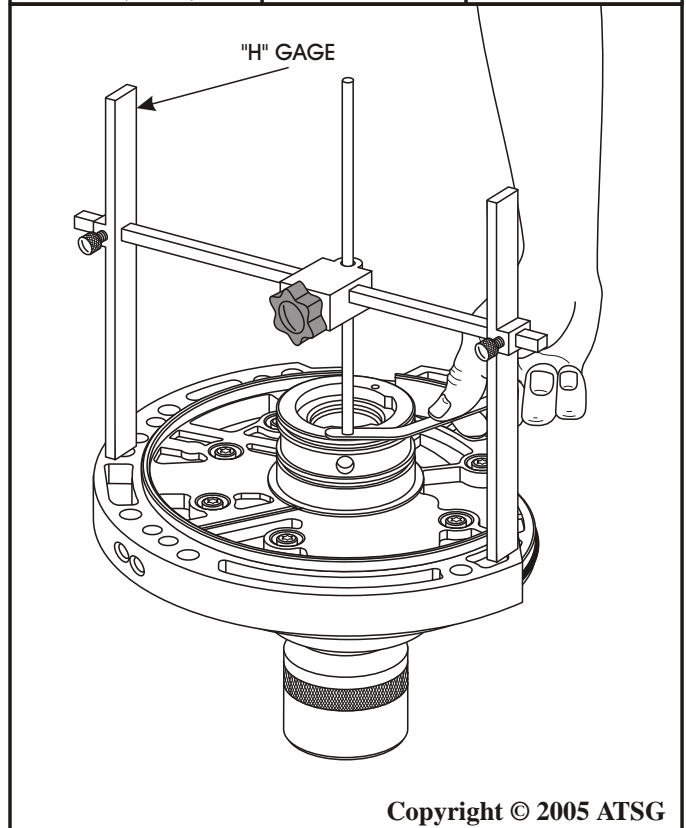

Figure 199
92. Turn the "H" gage over and set it on oil pump assembly, as shown in Figure 199.
93. Measure with a feeler gage between the pump surface and "H" gage adjustment leg, as shown in Figure 199, for proper front end play.
95. Change selective thrust washer as necessary using the chart in Figure 199, to obtain proper input shaft end play.